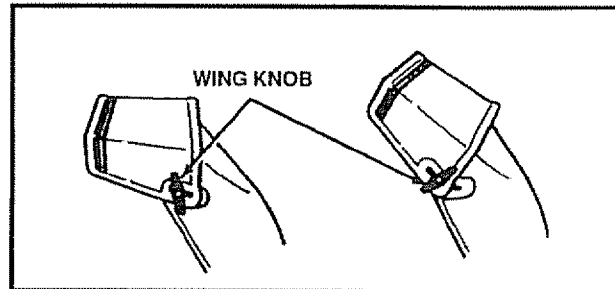

FIG. 9
- Loosen the wing knob on the chute deflector and move the deflector to set the **distance**. Move the deflector **UP** for more distance, **DOWN** for less distance. Then tighten the wing knob (Fig. 9).